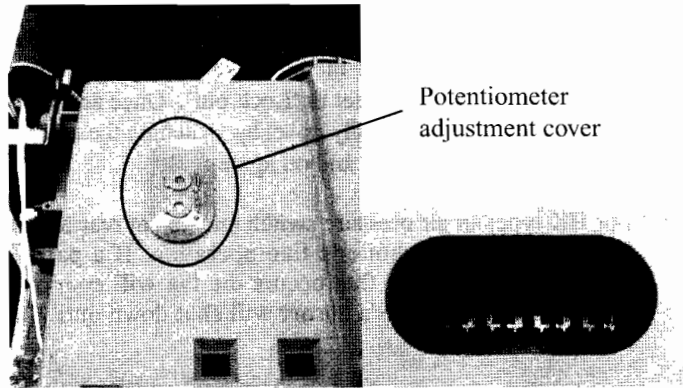

Figure 18
15.1 The boiler incorporates 4 potentiometers and a bank of dip switches to allow adjustment to its pre-set parameters. These are situated on the rear of the control panel. (*figure 18*)